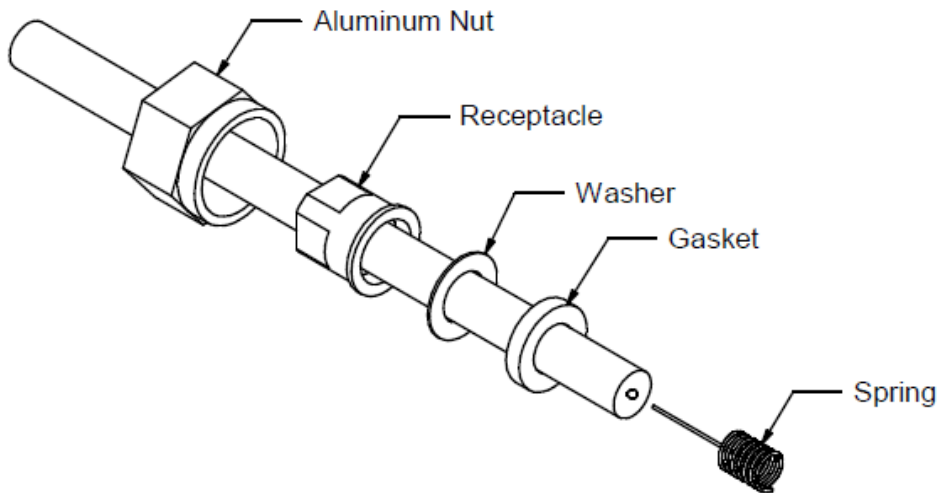

Figure 6.1 Spark plug wire components
- 3) Slide the aluminum nut, receptacle, washer, and gasket on the wire. Approximately one inch of wire should extend past the gasket. See Figure 6.1 for the correct component stack-up.
5) See Figure 6.1 for an example: